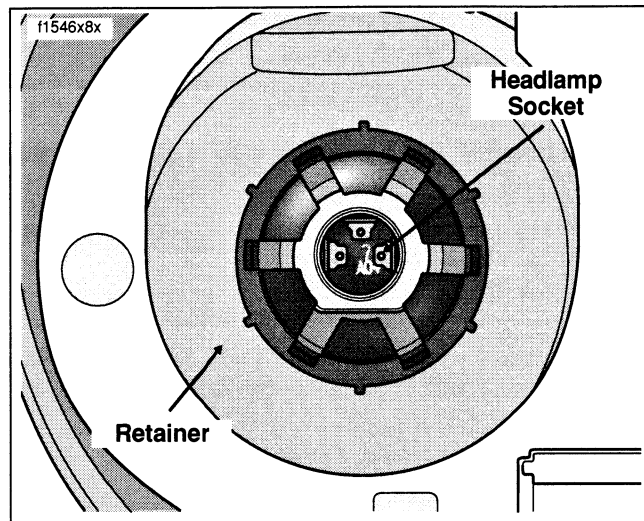

Figure 56. Bulb Retainer
6. See Figure 56. and Figure 56. Turn retainer counter-clockwise (CCW) and remove from headlamp assembly.